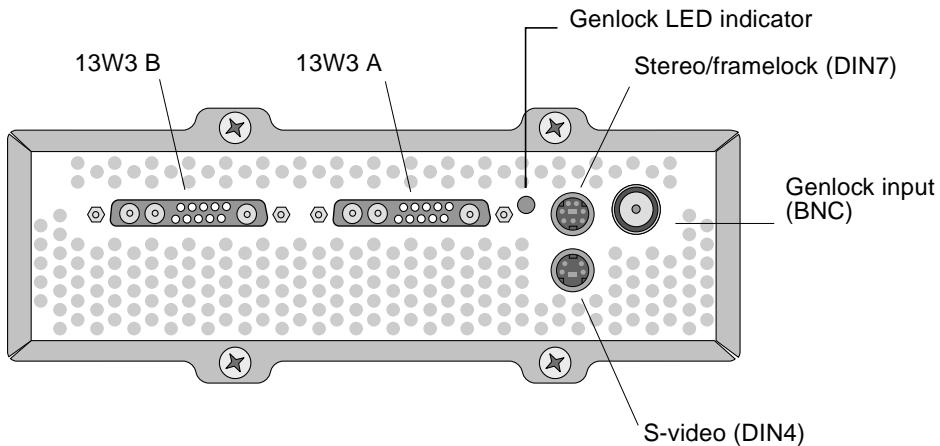

FIGURE 8-1 Sun XVR-4000 Graphics Accelerator 13W3 and Genlock Connectors
1. **Locate the Sun XVR-4000 graphics accelerator I/O back panel on the rear of your Sun Fire V880z server and the 13W3 connector you will use as genlock master (FIGURE 8-1).**